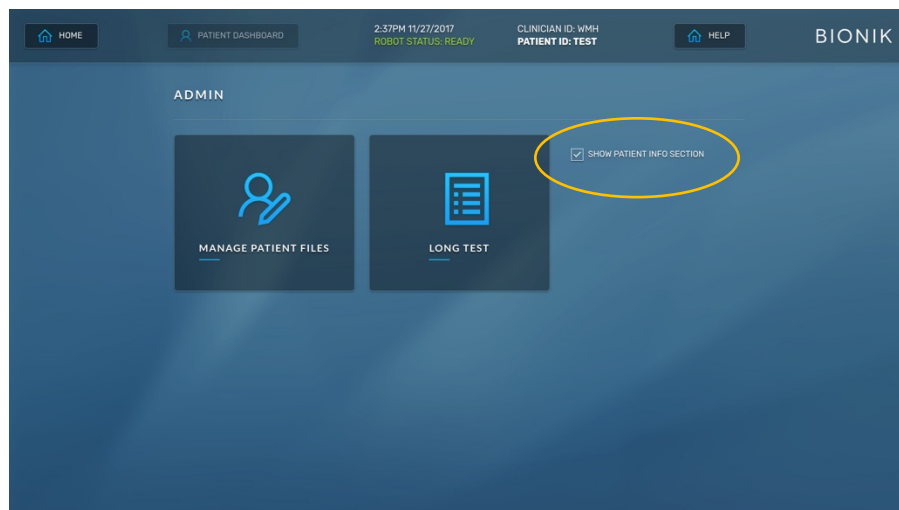

Figure 19 - ADMIN Screen (SHOW PATIENT INFO SECTION highlighted)
- To enable these data entry fields, go to the HOME screen, click on the ADMIN button, and check the box marked 'Show Patient Info Section.' See figures 19.